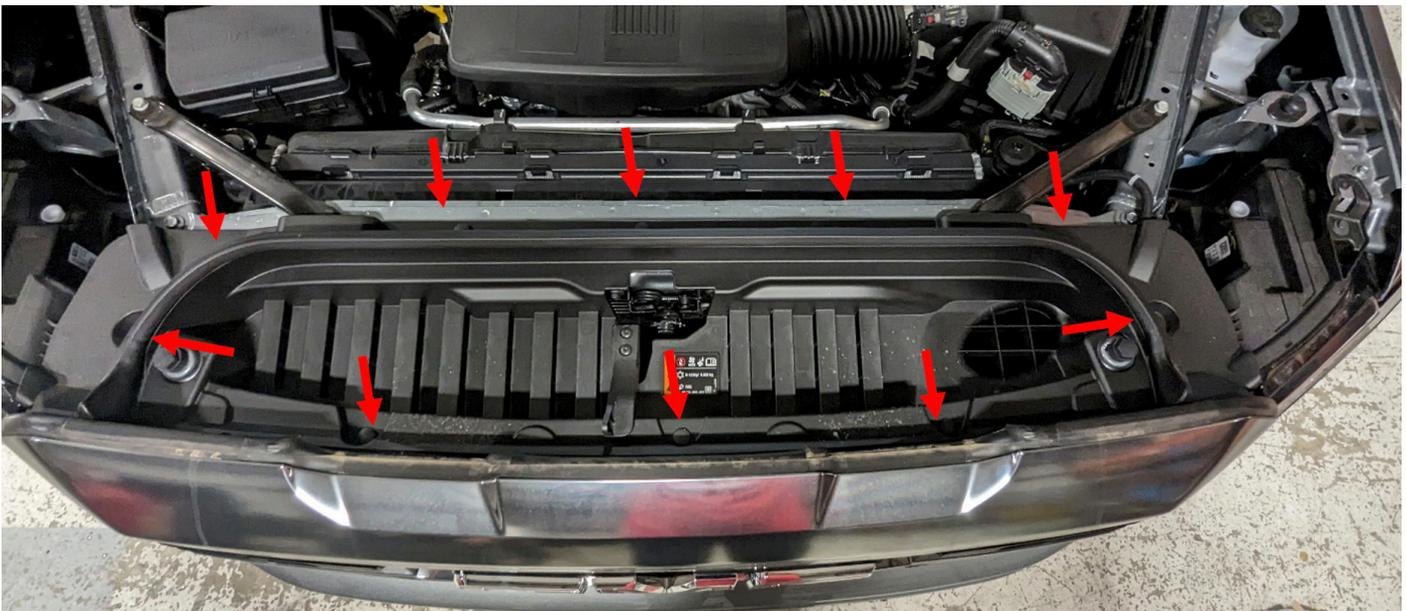

Figure 2
2. Using a panel pry tool, remove the nine (9) push pins in the under-hood cowl to remove it. Figure 2